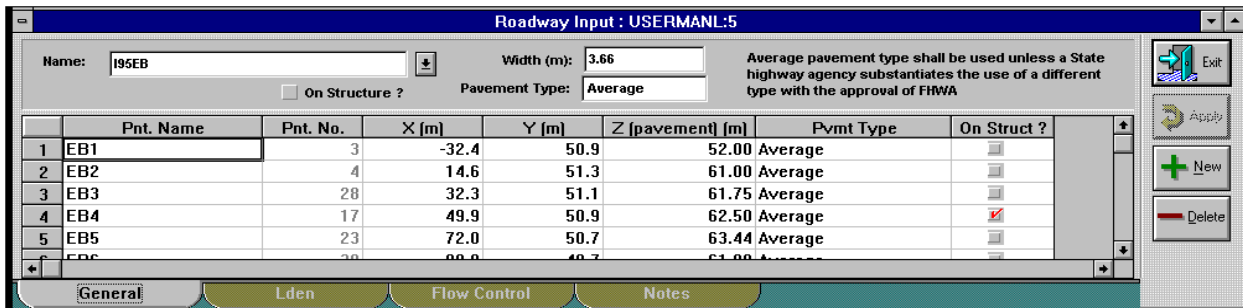

Figure 20. Roadway input: General tab.
- Select  on the roadway input dialog (see Figure 20).